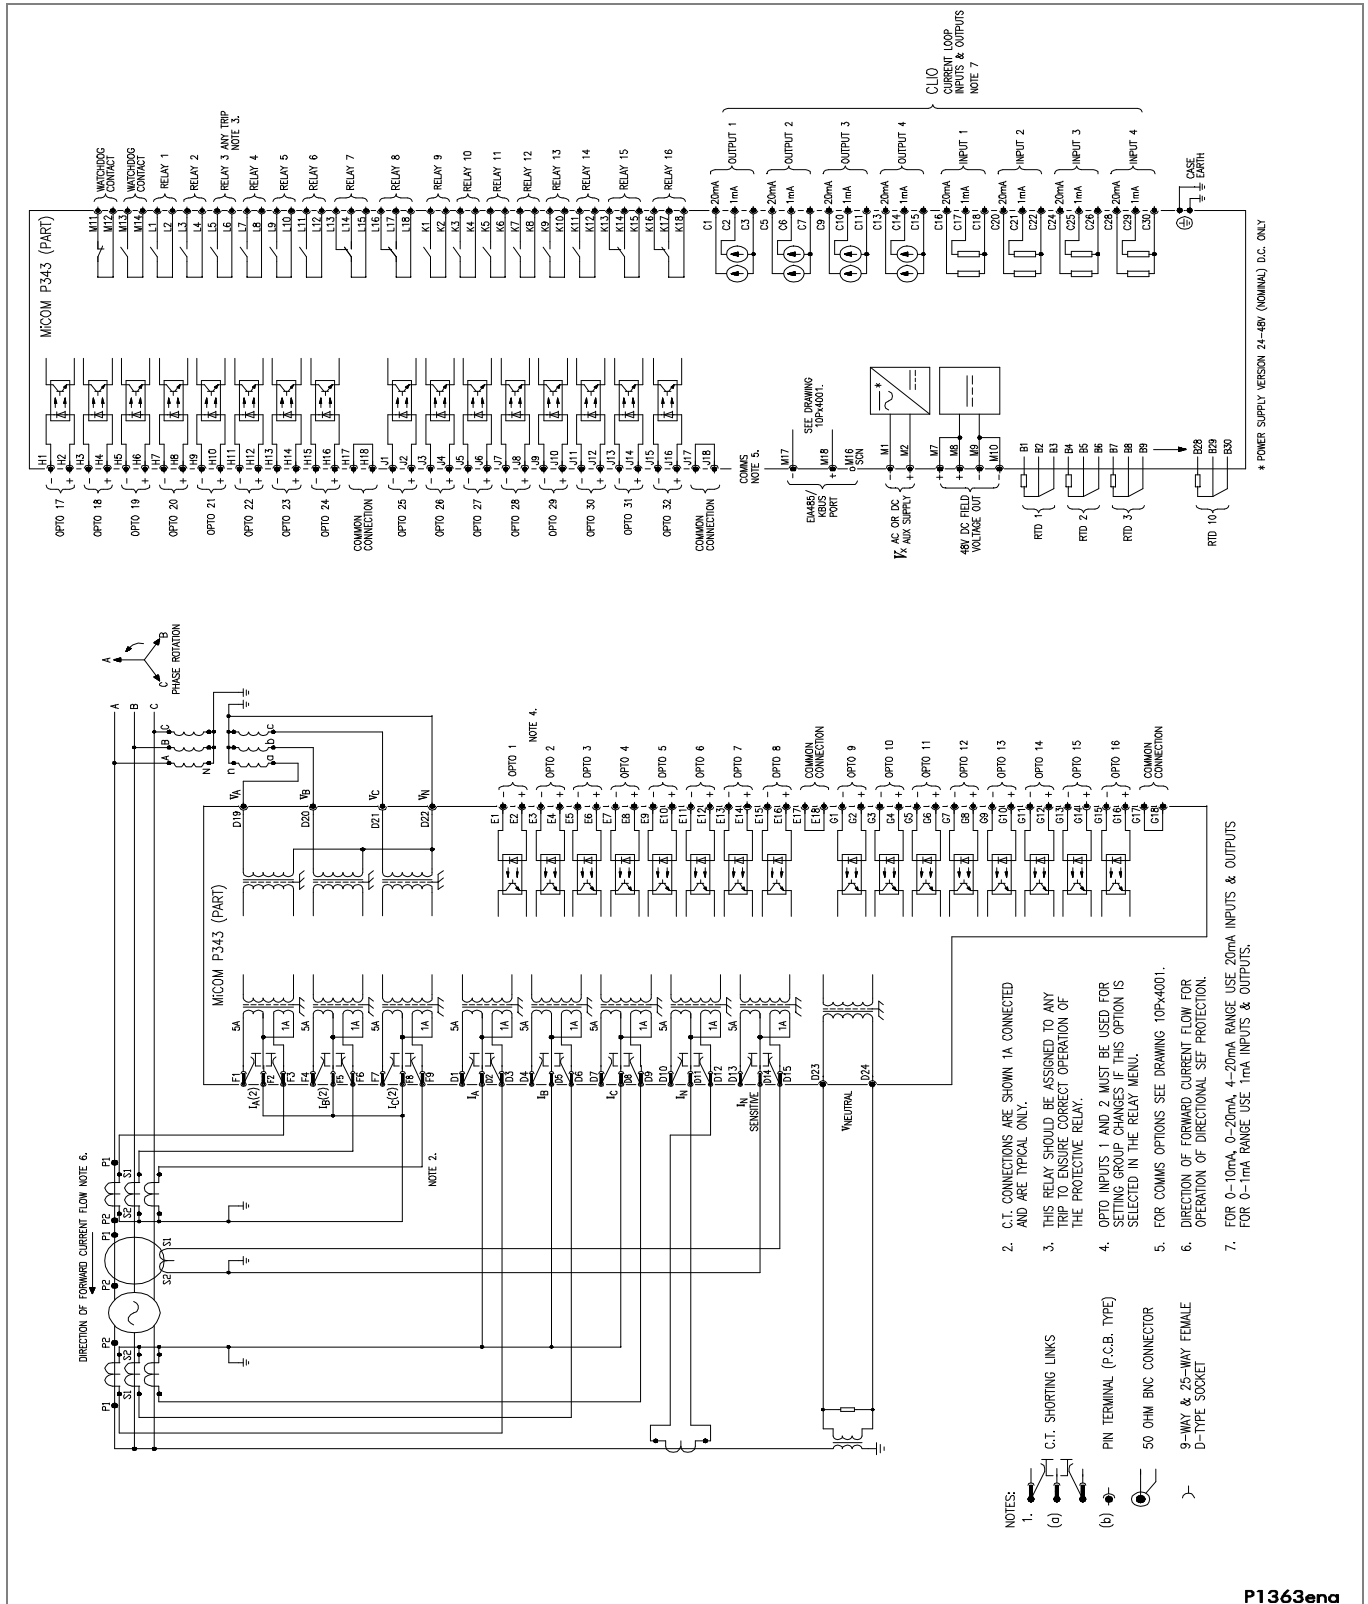

Figure 37 - P343 (80TE) with biased differential (32 I/P & 16 O/P & RTD & CLIO)
- Figure 37 - P343 (80TE) with biased differential (32 I/P & 16 O/P & RTD & CLIO)